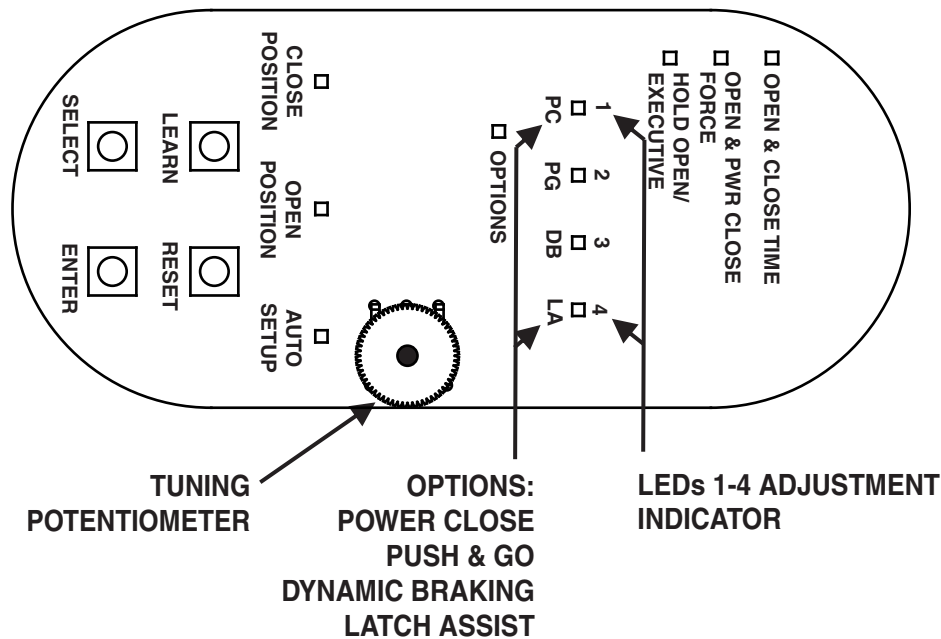

Figure 12
1. Refer to Figure 12 and, at the base of the setup board, PRESS and HOLD both “SELECT” and “ENTER” pushbuttons until LEDs 1 through 4 flash. The following shall occur: